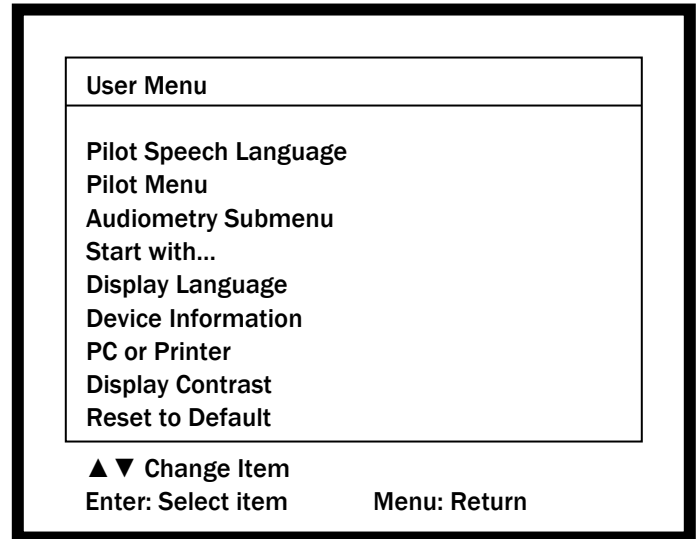

Figure 3
Press the **MENU** button (16) again to exit the respective menu or user menu (Figure 3). After leaving the user menu you will return to the test you last selected. The possible settings of the Pilot Test are as follows:
Additional items on the **User Menu** screen (Figure 3) include: